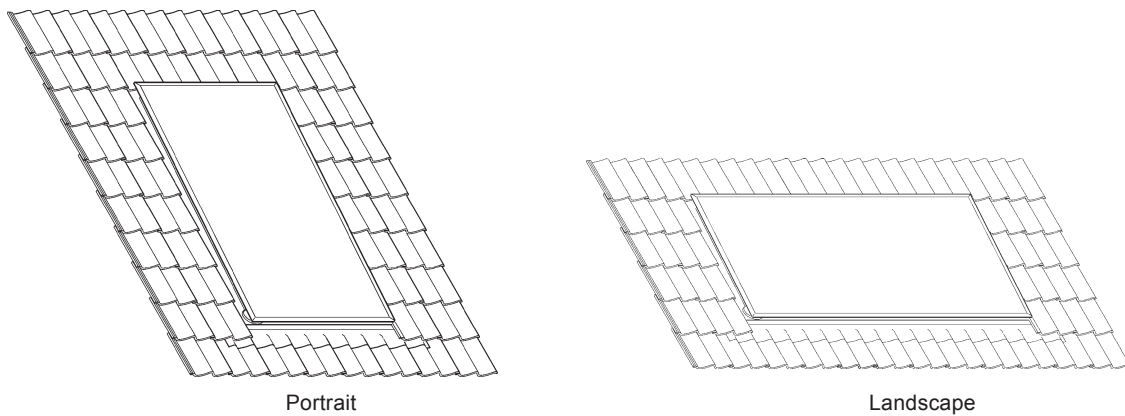

Fig. 7
### 3.6 SOLAR COLLECTOR INFORMATION - Fig. 7
- a. **Integration of the collector into the tiles of a pitched roof:** Using the Alpha Flashing Kit (Part No. 6.4000750 portrait or Part No. 6.4000650 landscape), landscape or portrait collectors can be integrated into the structure of a pitched roof as shown in Fig. 7. The roof must have an inclination of more than 20° and the tiles used with the flashing kit must be suitable to ensure that the installation is weatherproof. Full details of this type of installation are provided in the instructions supplied with the kit.